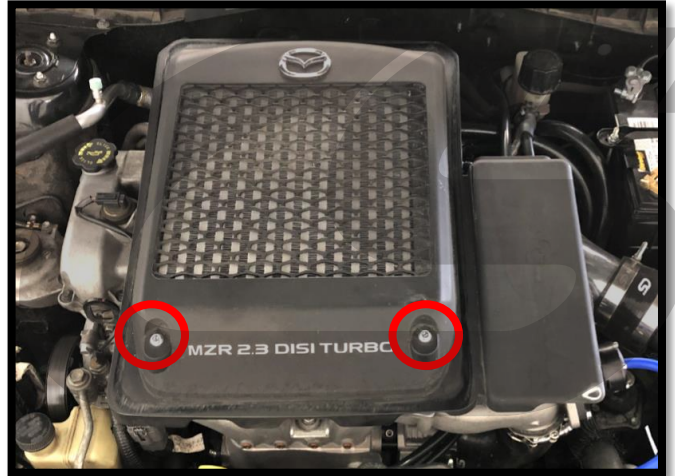

Figure 1a
- a) Remove the two 10mm bolts holding the OEM TMIC shroud. Shown circled in red in Figure 1a. Then remove the TMIC shroud.